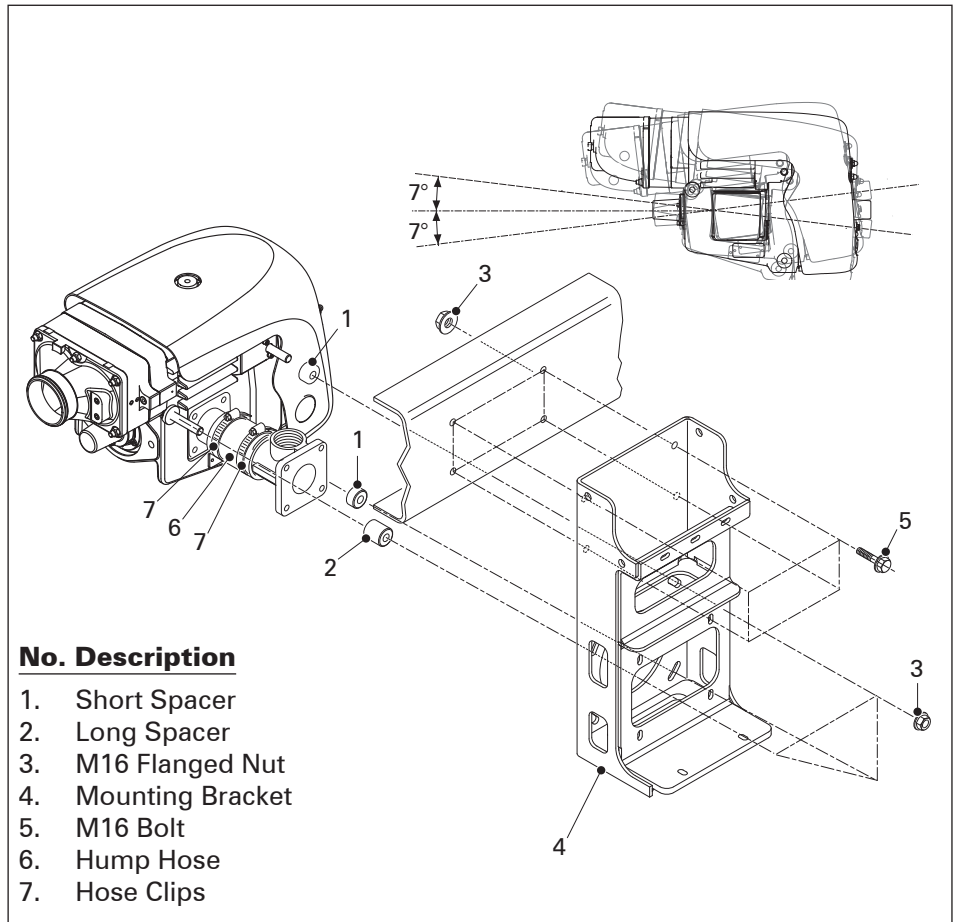

Figure 3a. Mounting fasteners - assembled package
Package 5 should be installed to the chassis using 4 mounting bolts and nuts (Figure 3a - Items 3 and 5) between the main vehicle chassis and mounting bracket. All mounting fasteners should be M16 grade 8.8 (or higher) (See Figure 3a).
During mounting, the basic machine should be aligned/angled with the gearbox as described in the main XK instructions. The machine can be rotated (+/- 7°) by loosening the three M16 flanged nuts (item 3 - Fig 3a) on the machine.